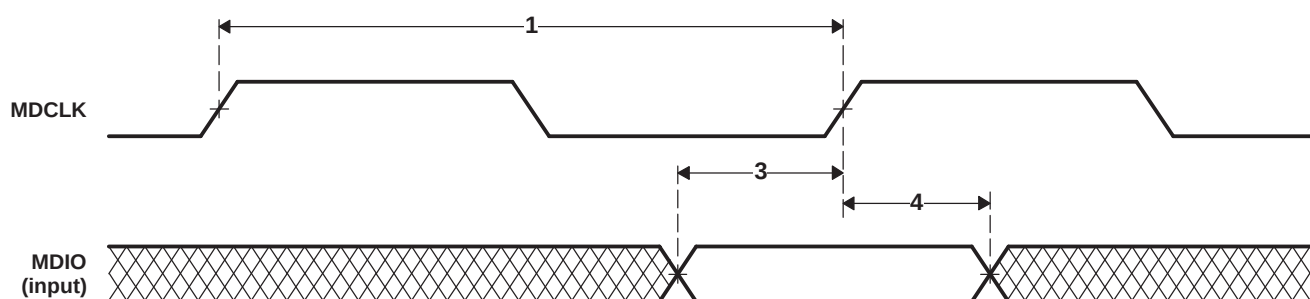

Figure 8-71. MDIO Input Timing
Table 8-90. Timing Requirements for MDIO Input (R)(G)MII (see Figure 8-71)